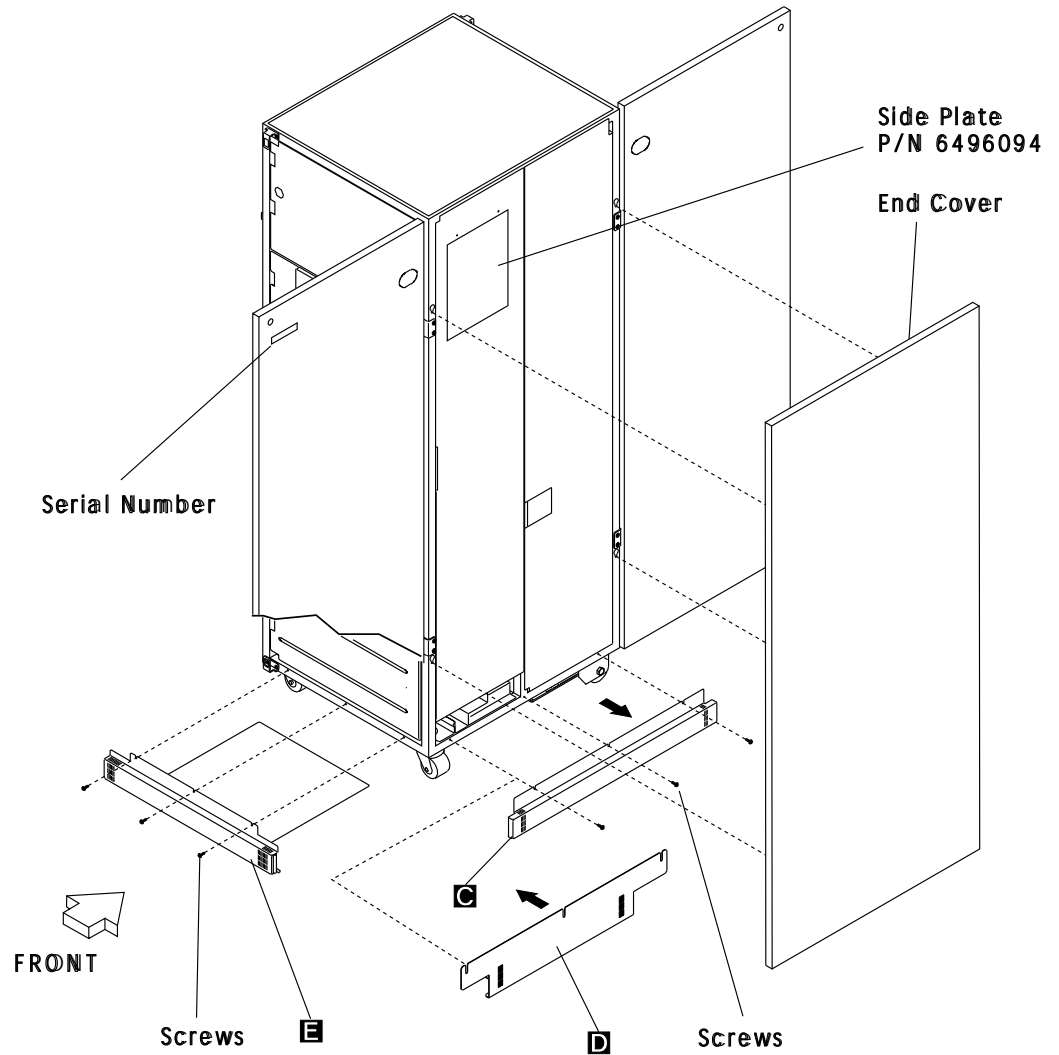

Figure 4-4. 3746-A11/A12 Expansion Unit (Front View)
- Step a. ____ **From the front right side of the 3746-A11**, remove the right end cover and the bottom right bracket **C** PN 65X8885 if installed (see Figure 4-4 on page 4-7). Place the bracket and cover in a safe out-of-the-way area.
- Step c. ____ Refer to Figure 4-4 on page 4-7 if not already done **on the 3746-A11**, loosen the two retaining screws and remove the right side plate PN 6496094 shown in the figure.
- Step a. ____ **From the front right side of the 3746-A12**, remove the right end cover and the bottom right bracket **C** PN 65X8885 if installed (see Figure 4-4 on page 4-7). Place the bracket and cover in a safe out-of-the-way area.
- Step c. ____ Refer to Figure 4-4 on page 4-7 if not already done **on the 3746-A12**, remove the two retaining screws and remove the right side plate PN 6496094 shown in the figure.